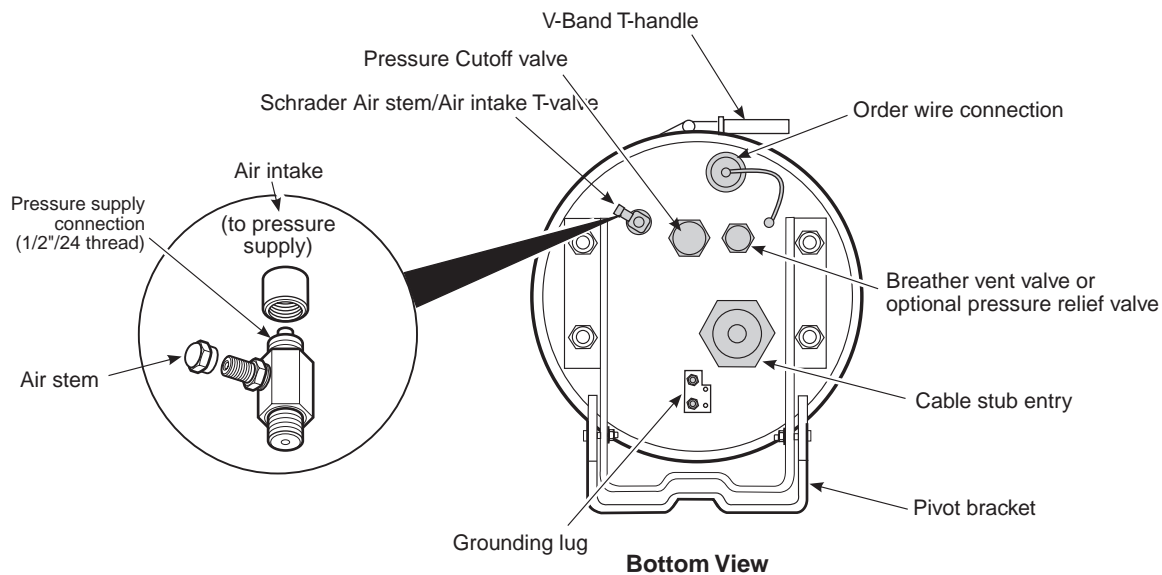

Figure 1. HRE-712 List 1 Remote Gel-Filled Enclosure
- The HRE-712 List 1, shown in Figure 1 on page 2, contains a gel-core stub and is intended for aboveground applications that do not require pressurization through the cable stub. If you prefer to pressurize the enclosure, it can be locally pressurized using an optional pressure-relief valve.
The gel-filled cable stub on the HRE-712 List 1, shown in Figure 1, is equivalent to an ALP FTS-PIC, filled-core telephone cable. Table 2 on page 24 provides a description of the cable stub. The enclosure is intended for aboveground applications. Standard color codes are used for pair identification with color compounds chosen for electrical balance and permanency. An inner core jacket protects the core and provides improved mechanical and electrical characteristics. The outer jacket consists of material that provides protective covering from sunlight, atmospheric temperatures, ground chemicals and stresses expected in standard installations.
The HRE-712 List 1 enclosure is equipped with three metal valves installed in the base section, shown in Figure 1. The breather-vent assembly allows the circulation of outside air through the HRE-712 List 1 enclosure when it is not pressurized. The enclosure must breathe to prevent excess moisture and other damaging contaminants from accumulating within the enclosure.
The combined Schrader air-stem and External Air Intake T-valve, shown in Figure 1, has both a Schrader air valve and an air intake port that accepts a tube for connection to an external air source. In addition, the Schrader valve can relieve the internal pressure of the dome when using an external air source. The external source must be able to be turned off upstream from the air intake port.